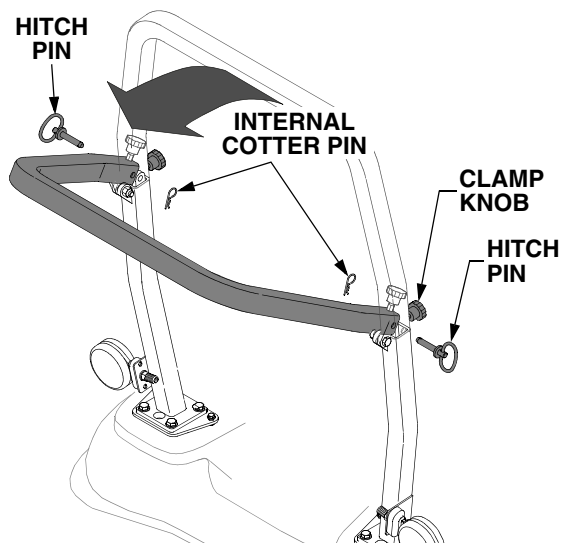

Figure 13
- Loosen the two clamp knobs on the front of the ROPS to relieve their pressure on the ROPS. See Figure 13.
- Remove the two internal cotter pins, and, while supporting the ROPS, withdraw the hitch pins. See Figure 13. Carefully lower the ROPS.